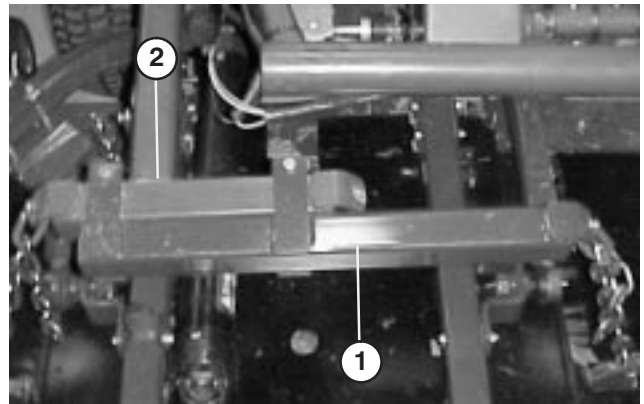

Figure 11
2. Slide front lift arm onto traction unit t-bar, positioning as shown in Figure 11.